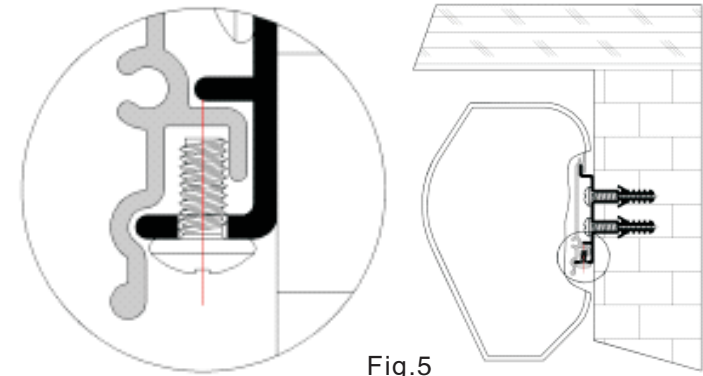

Fig.5
4. Fix the screen casing as Fig 5